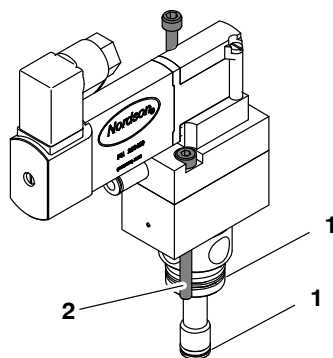

Figure 11: Adhesive control module lubrication areas
2. See Figure 11. Apply high-temperature lubricant to the O-rings on the module and to the module mounting screws (under the screw head and on the threads).
4. (*Adhesive control modules only*) See Figure 11. Using a torque wrench, **tighten the screws alternately** (from screw 1 to screw 2, then back to screw 1 and screw 2, and so on) in increments of approximately 0.9 N•m (8 in.-lb) until you reach a torque of 2.7 N•m (24 in.-lb).